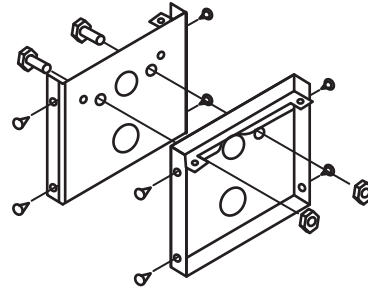

Figure 7A: End-to-End Connection
9. Mount the heaters in the floor using screws, bolts, or anchors (by installer) which suit the floor construction. Alignment bolts (from factory) can be inserted in adjoining end corners of housings to maintain alignment between units. See Figures 7A, 7B, & 7C for details.